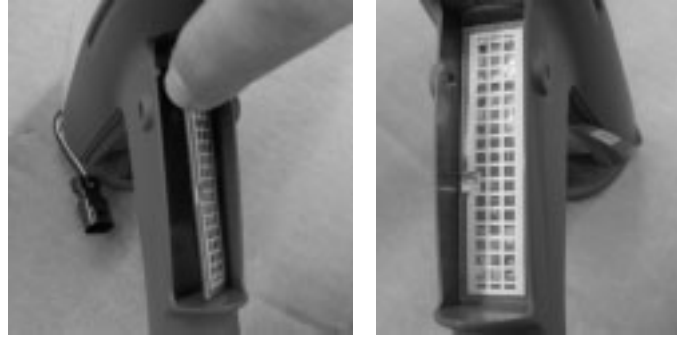

Figure 6-11 Installing the Trigger Switch – Step 4
4. See Figure 6-11. Peel the adhesive release liner from the switch.